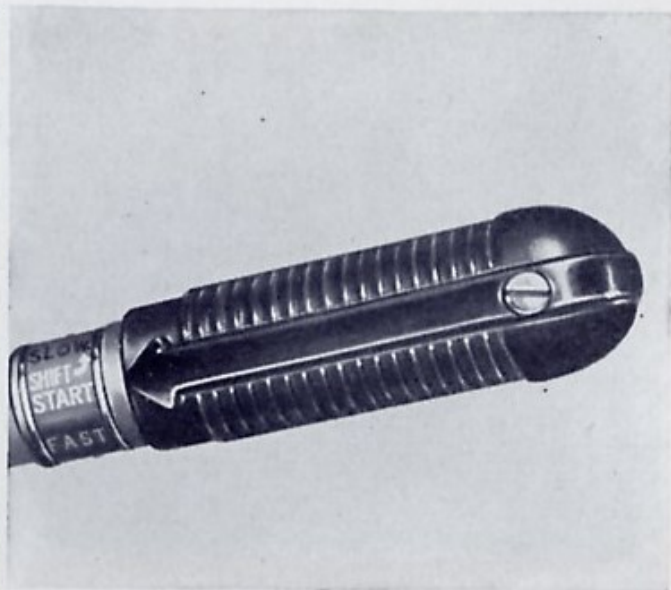

Figure 8
“Spark” and “throttle” are synchronized by a system of linkage to correctly proportion degree of spark advance with respect to volume of fuel charge admitted throughout entire speed range of the motor. Desired motor speeds (within capacity of the motor) are thus obtained by manipulation of the control grip (Fig. 8).
10 It is possible to shift ONLY when the arrow on the speed control grip is set within the “shifting” range as indicated by position marked SHIFT and arrow on the steering arm (Fig. 8). Take note of this fact.
3. Turn speed control grip to position marked "start" as indicated on the steering arm (Fig. 8); then advance control grip toward position "fast" until it "butts" against speed limit control for neutral operation.